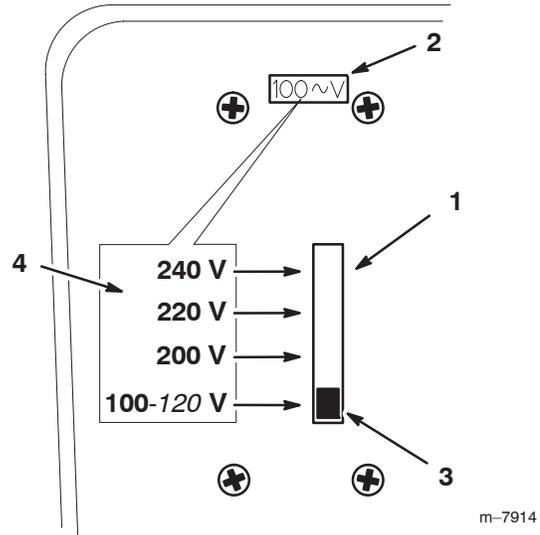

Figure 13
- 1. Locate the voltage selector on the rear of the charger (Fig. 13).
- 2. Adjust the voltage setting by moving the switch on the voltage selector upward or downward to change the voltage setting (Fig. 13).